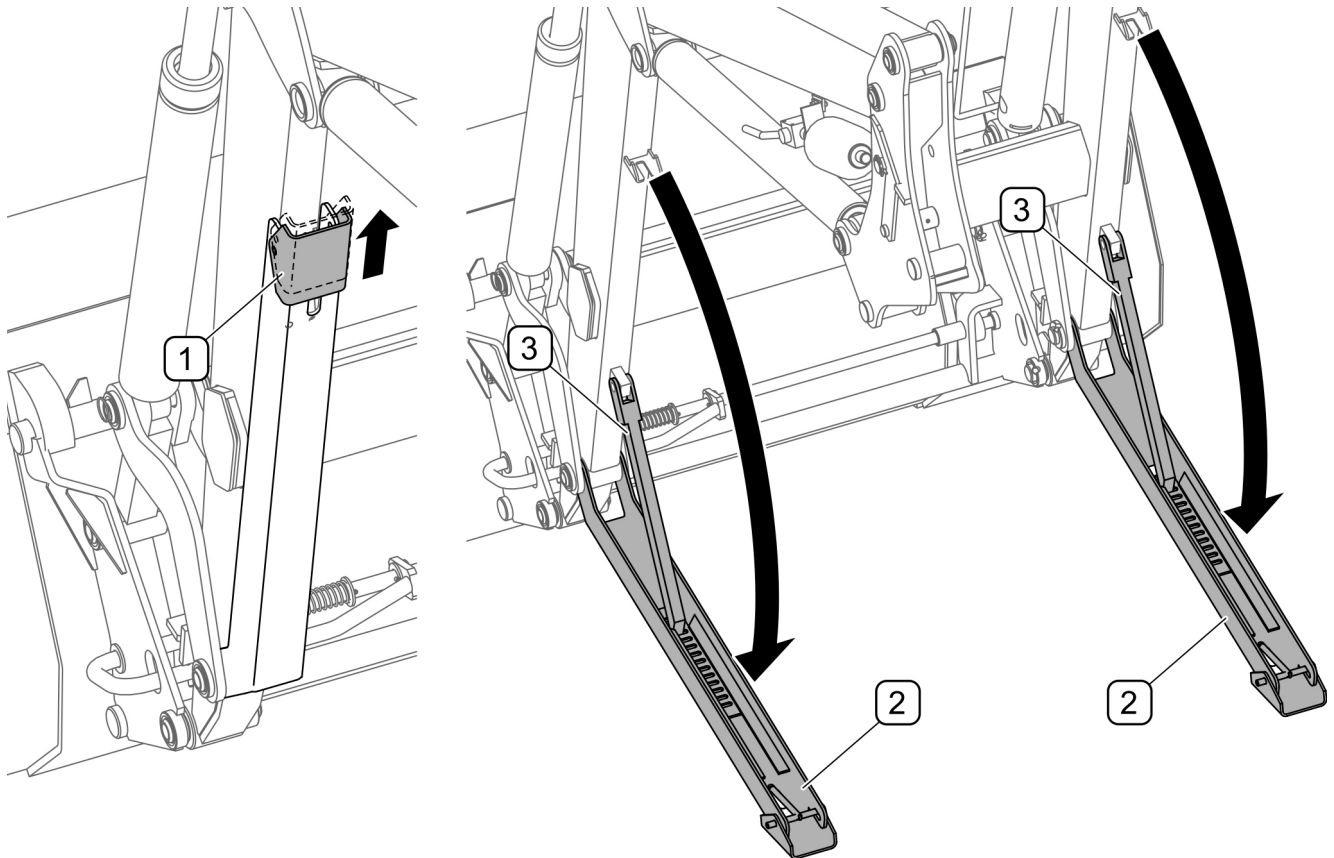

FIGURE 4.22. Parking stand
- pull out the foot locks (1) (FIGURE 4.22);
- lower the parking stands (2) with the pawls (3) onto the ground;